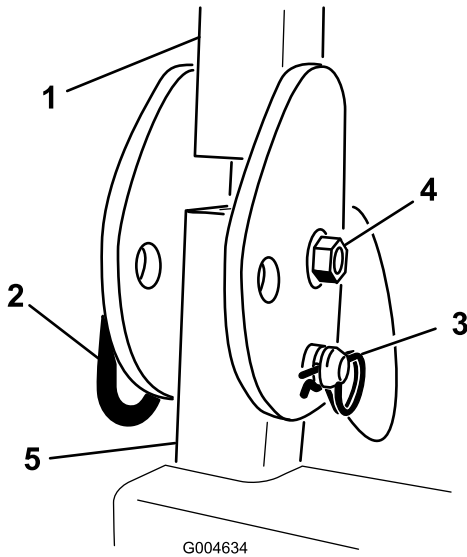

Figure 31
11. Position the ROPS assembly onto the ROPS posts. Install the bolt, nut, hair pin cotter and pin securing each ROPS assembly to the ROPS posts (Figure 31).